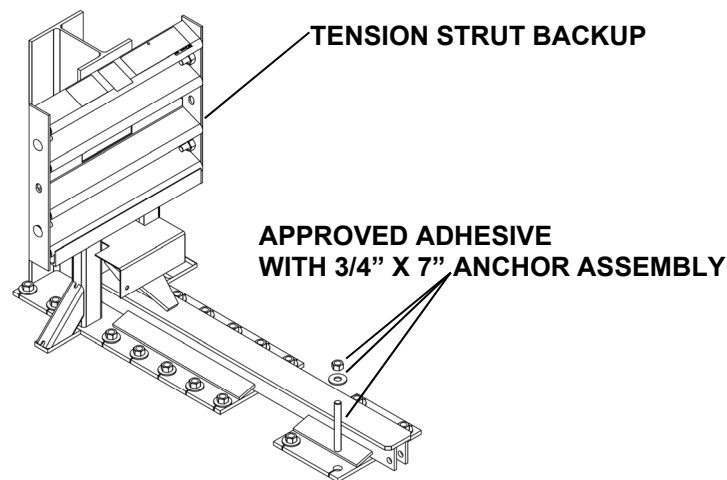

Figure 10
2) Anchor the Tension Strut Backup (Figure 10)